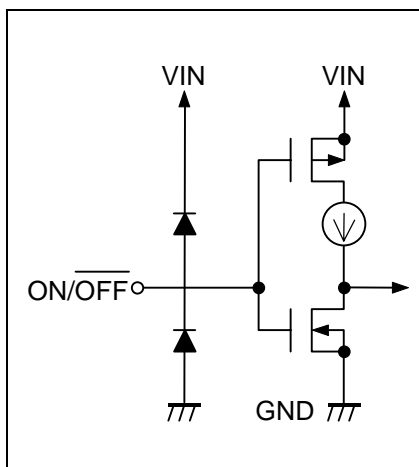

Figure 11
The structure of the ON/OFF pin is as shown in **Figure 11**. Since the ON/OFF pin is neither pulled down nor pulled up internally, do not use it in the floating state.
- The ON/ $\overline{\text{OFF}}$ pin is configured as shown in **Figure 11** and is neither pulled up or down internally, so do not use this pin in a floating state. When not using the ON/ $\overline{\text{OFF}}$ pin, connect it to the VIN pin.